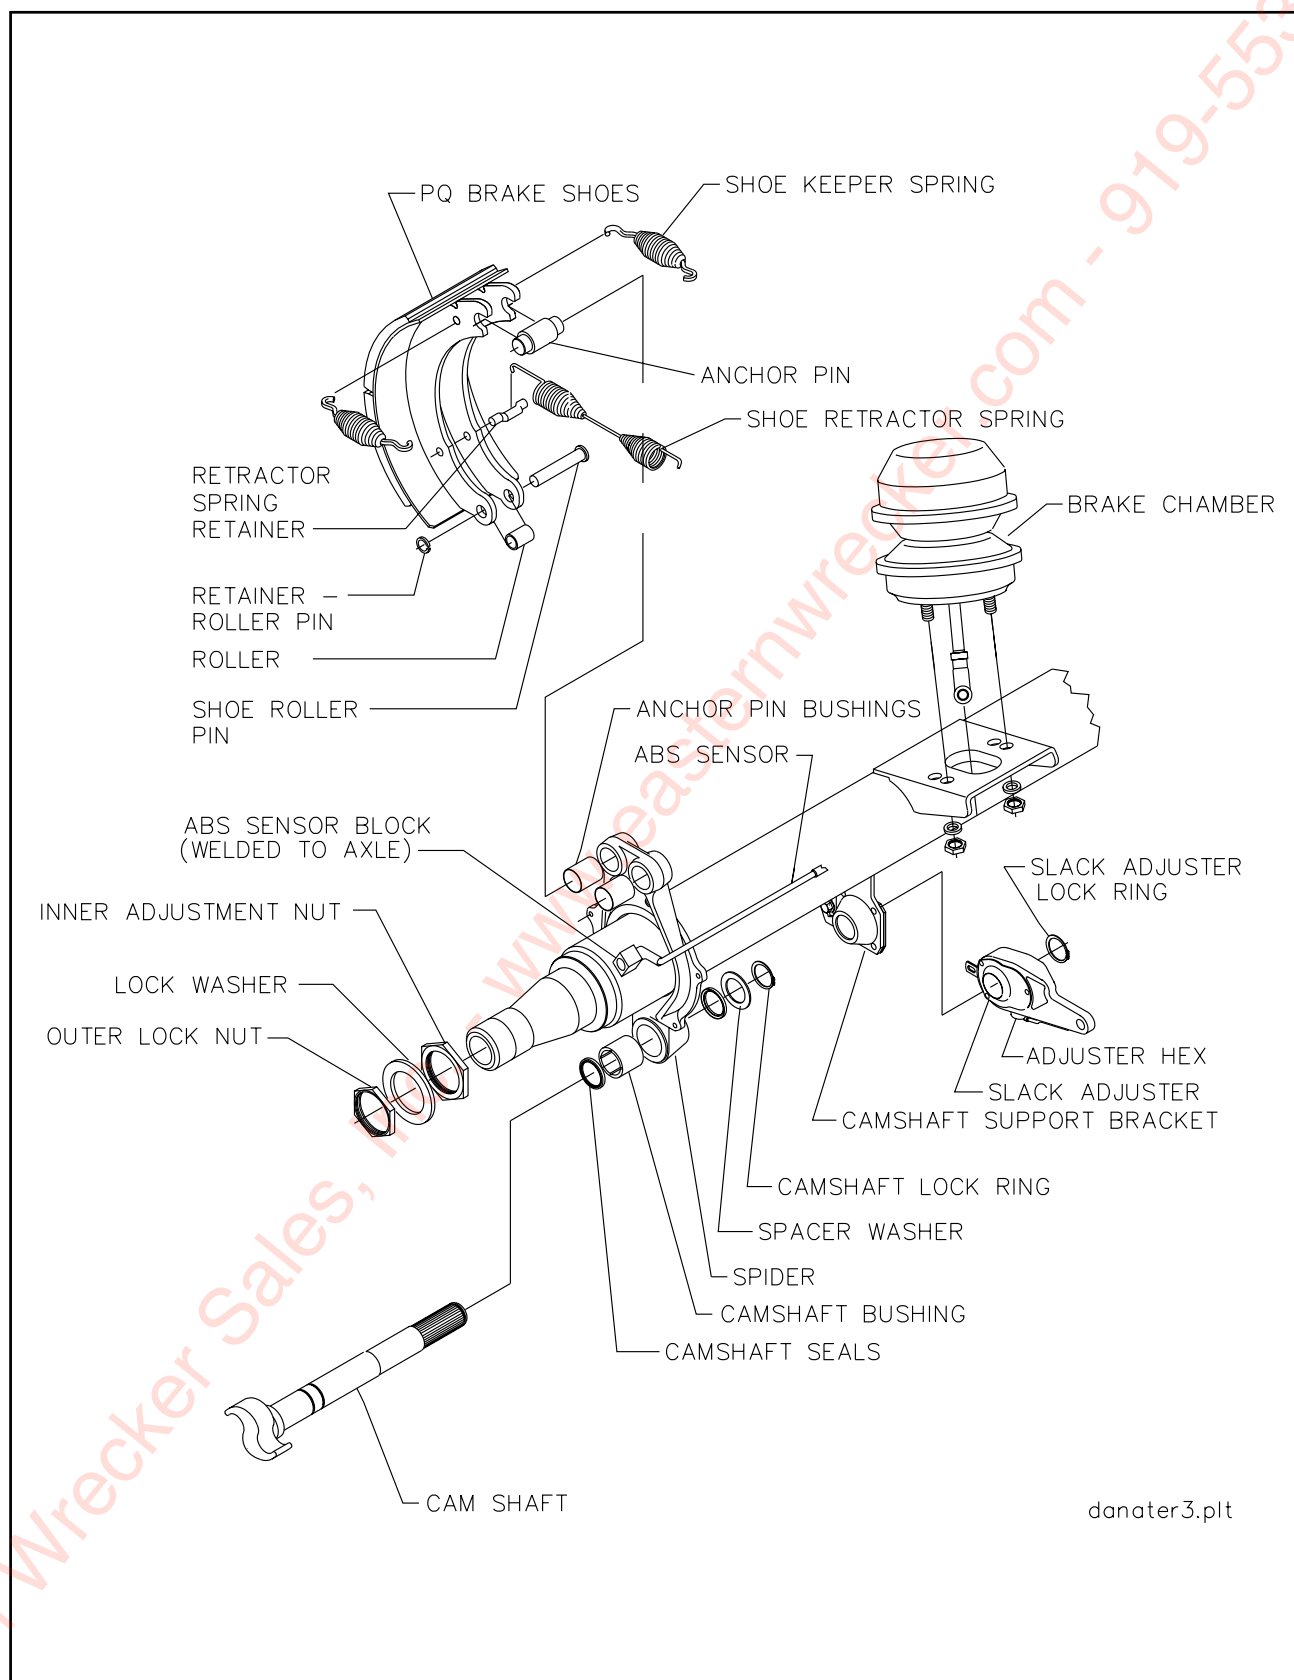

Figure 4-13 Axle and Brake Assembly
b. Disassembly for 12-1/4" X 7-1/2" Brakes (See Figure 4-13)
3. Remove drum assembly (See Figure 4-13).
c. Reassembly for 12-1/4" X 7-1/2" Brakes (See Figure 4-13)
d. Disassembly for 16-1/2" x 7" Brakes (See Figure 4-13).
3. Remove drum assembly (**See Figure 4-13**).
e. Reassembly for 16-1/2 x 7" Brakes (See Figure 4-13).